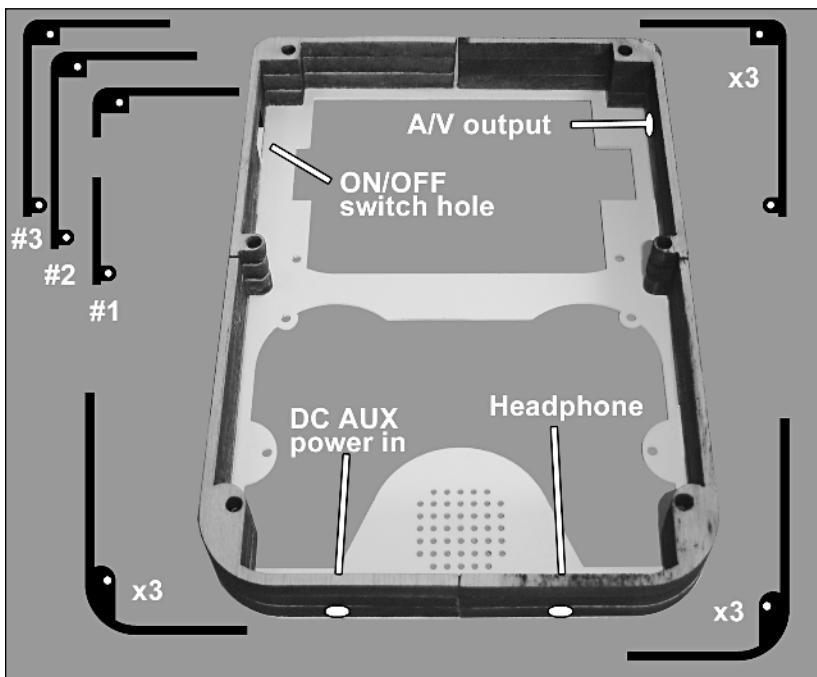

FIGURE 11-4: Which front side walls to stack and glue to the back of the front plate, and where to drill the holes.
2. Stack and glue the three layers of *front side walls* on the back of the front plate as shown in Figure 11-4. Keep the outer edges of the walls flush with the edges of the plate of engraving plastic.
- Piece #1 is actually two pieces. Glue it down so that the right and bottom edges of it touch the other wall portions of the unit. This will leave about a 1/2"-wide hole in which to put the on/off switch (as labeled in Figure 11-4).